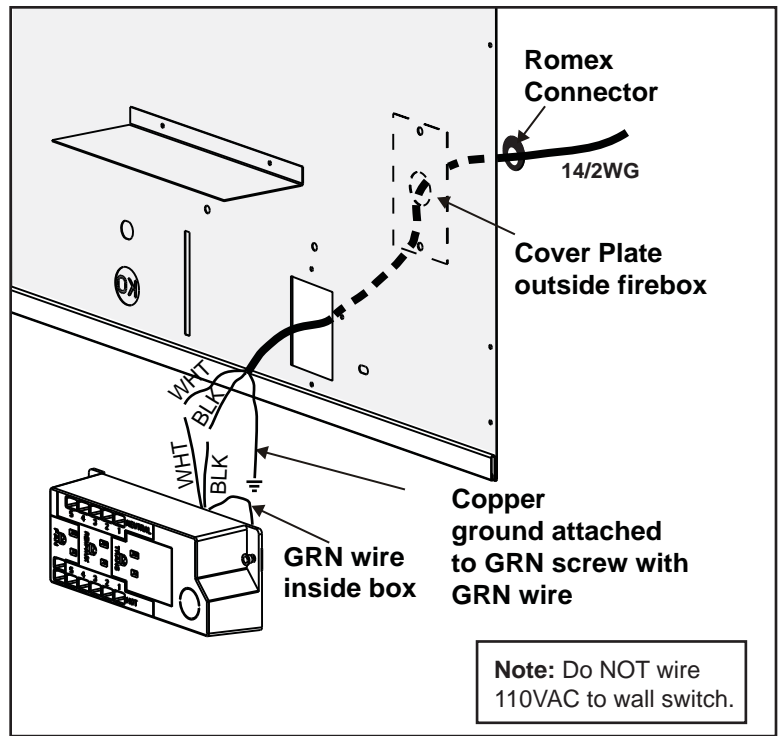

Figure 10.3 Junction Box Detail
- Remove the cover plate located on the outer shell - left side. See Figure 10.3.
- Remove the screw attaching the junction box/receptacle to the outer shell, rotate the junction box inward to disengage it from the outer shell (see Figure 10.3).